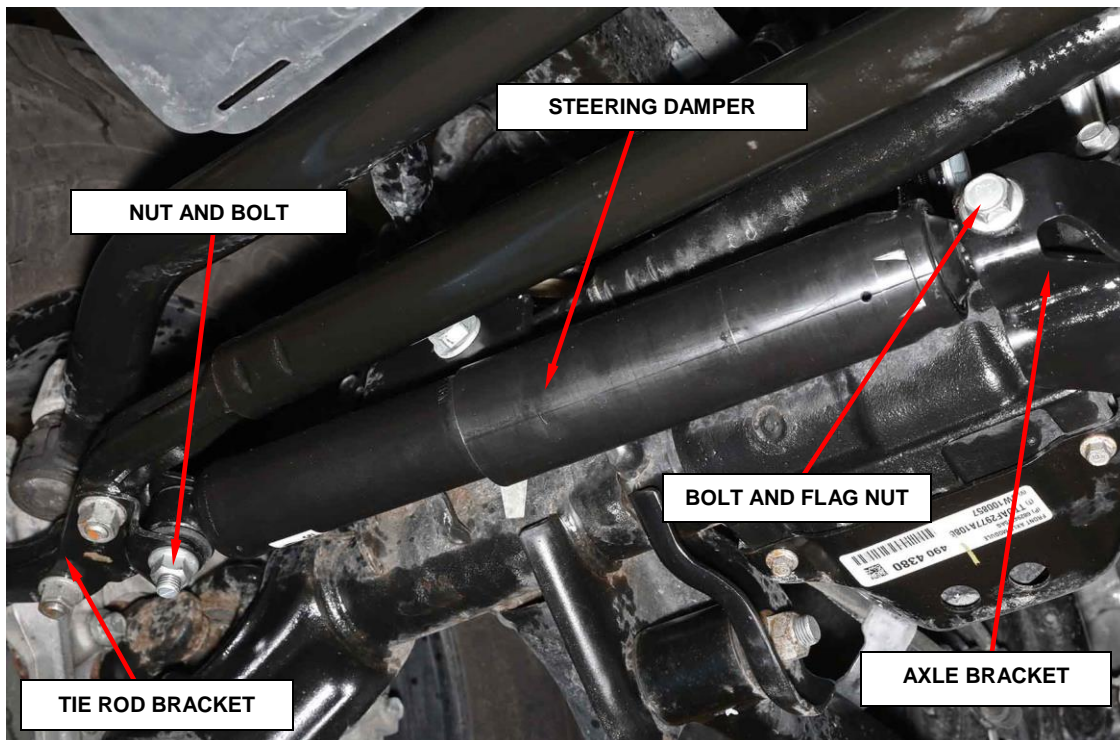

Figure 1 – Steering Damper
3. Remove the steering damper nut and bolt from the tie rod bracket (Figure 1).
7. Install the **NEW** steering damper bolt through the axle bracket and start it a few threads into the **NEW** flag nut (Figure 1).
9. Tighten the **NEW** steering damper bolt on the axle bracket to 80 N·m (59 ft. lbs.) (Figure 1).